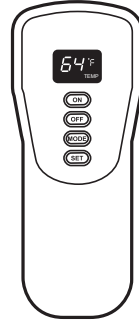

Figure 31 - Remote Control
4. Press the ON button on the remote control to light the burner (see Figure 31). You will hear a series of beeps. This will also "learn", or program, the remote and the receiver.
The factory setting for temperature is °F. To change this setting to °C, press the ON key and the OFF key on the remote control at the same time (see Figure 31, page 23). This will change from °F to °C. Follow this same procedure to change from °C back to °F.